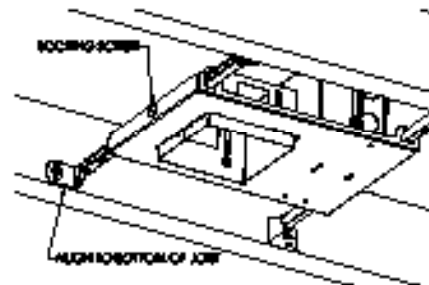

FIGURE 1
1. Loosen locking screws to extend hanger bars. See Figure 1.